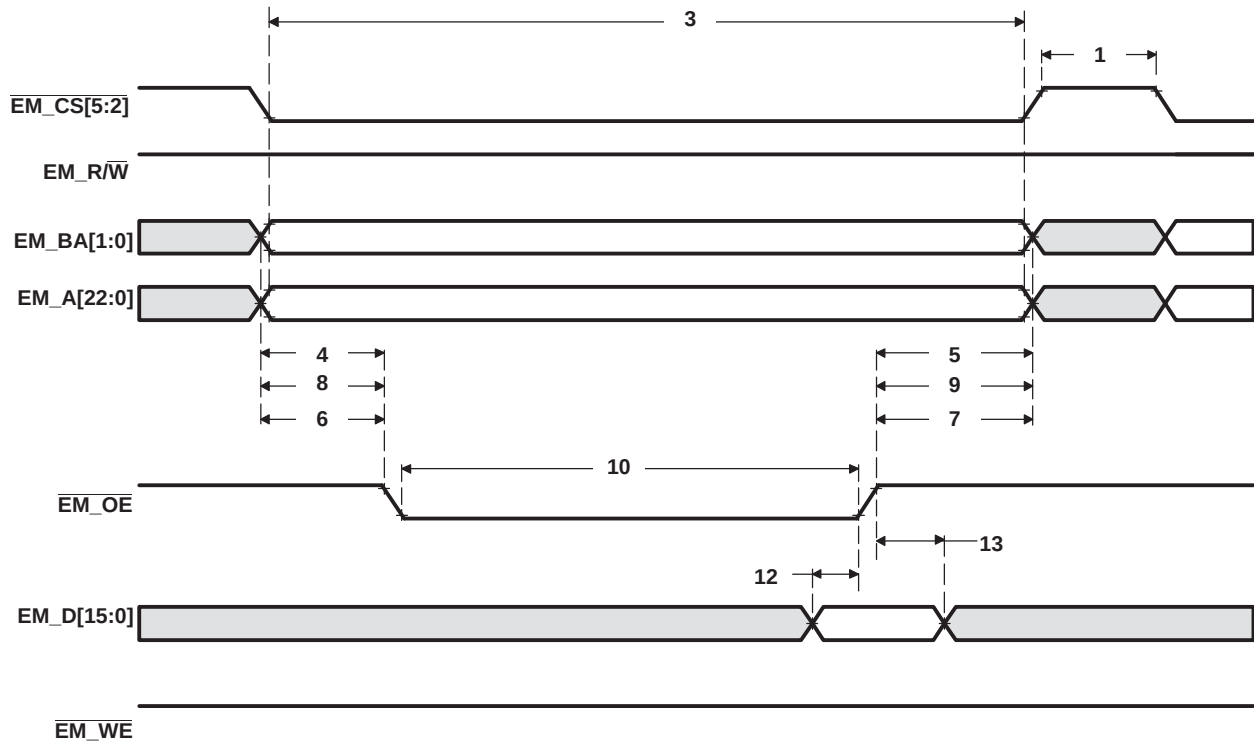
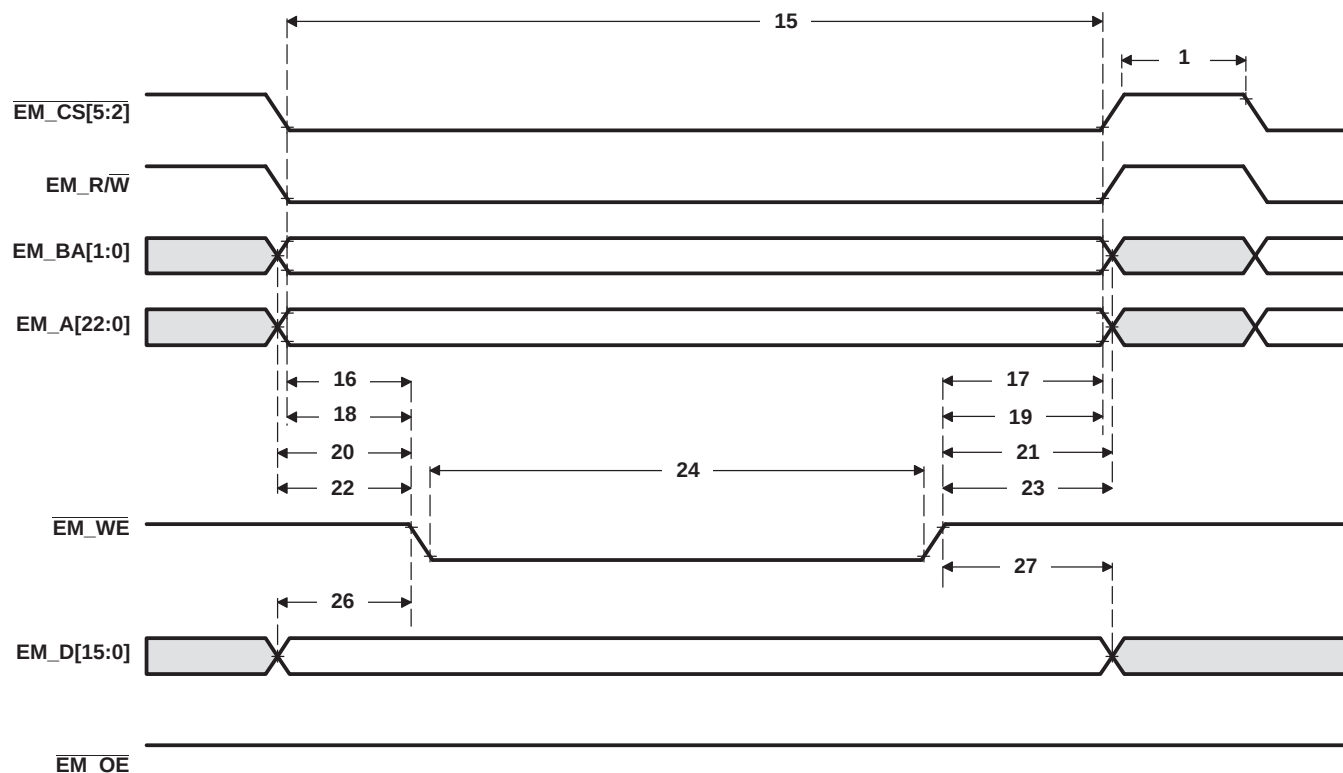

Figure 7-22. Asynchronous Memory Read Timing for EMIF
Figure 7-23. Asynchronous Memory Write Timing for EMIF
(see Figure 7-22 and Figure 7-23)
Table 7-30. Switching Characteristics Over Recommended Operating Conditions for Asynchronous Memory Cycles for EMIFA Module^{(1) (2)} (see Figure 7-22 and Figure 7-23)
- (1) RS = Read setup, RST = Read Strobe, RH = Read Hold, WS = Write Setup, WST = Write Strobe, WH = Write Hold, TA = Turn Around, EW = Extend Wait mode, SS = Select Strobe mode. These parameters are programmed via the Asynchronous n Configuration and the Asynchronous Wait Cycle Configuration registers and support the following range of values: TA[0–3], RS[0–15], RST[0–63], RH[0–7], WS[0–15], WST[0–63], WH[0–7], EW[0–1], and MEWC[0–255]. For more information, see the *TMS320DM646x DMSoC Asynchronous External Memory Interface (EMIF) User's Guide* (literature number SPRUEQ7).
- (2) E = SYSCLK3 period in ns for EMIFA. For example, when running the DSP CPU at 594 MHz, use E = 6.734 ns.
Table 7-30. Switching Characteristics Over Recommended Operating Conditions for Asynchronous Memory Cycles for EMIFA Module^{(1) (2)} (see Figure 7-22 and Figure 7-23) (continued)